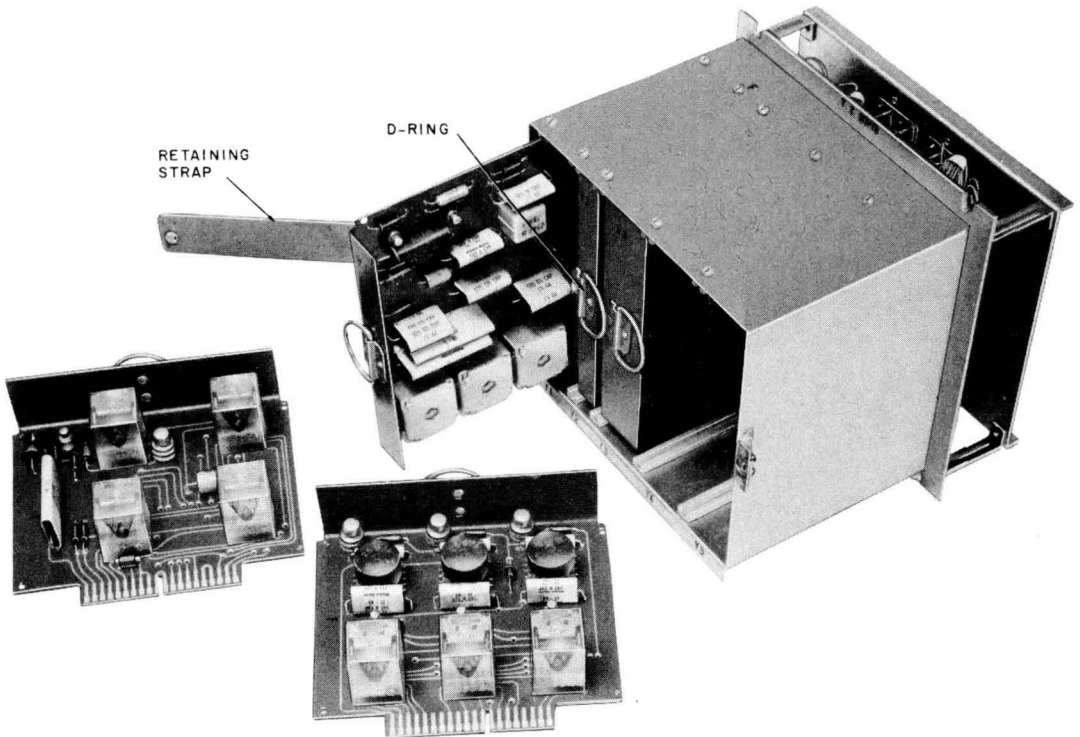

Fig. 3—247B KTU, Circuit Pack Removal
5.02 To replace circuit packs (Fig. 3):
Fig. 3—203A B, C or D and 212A KTUs with 210A and 227B KTUs for Line Pickup and Hold, Line and Busy Lamps, Common Audible Signal, Timeout, Lamp Wink, and Power Failure